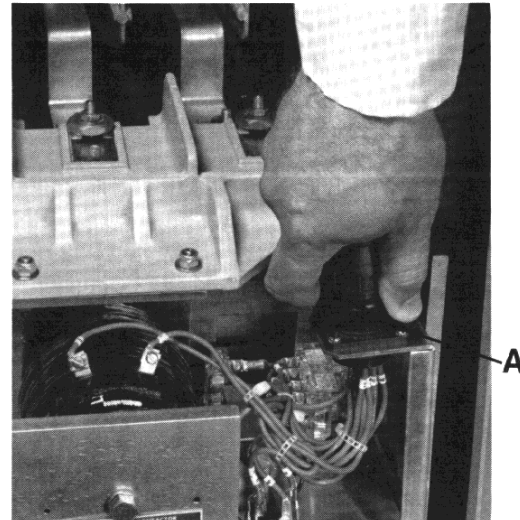

FIGURE 6
1. Disconnect contactor control cable from contactor by turning control cable plug lock nut (A) counterclockwise and lifting plug (See Figure 6).
9. Connect contactor control cable to contactor by pushing cable plug into contactor plug receptacle and turning control cable plug lock nut (A) clockwise (See Figure 6).